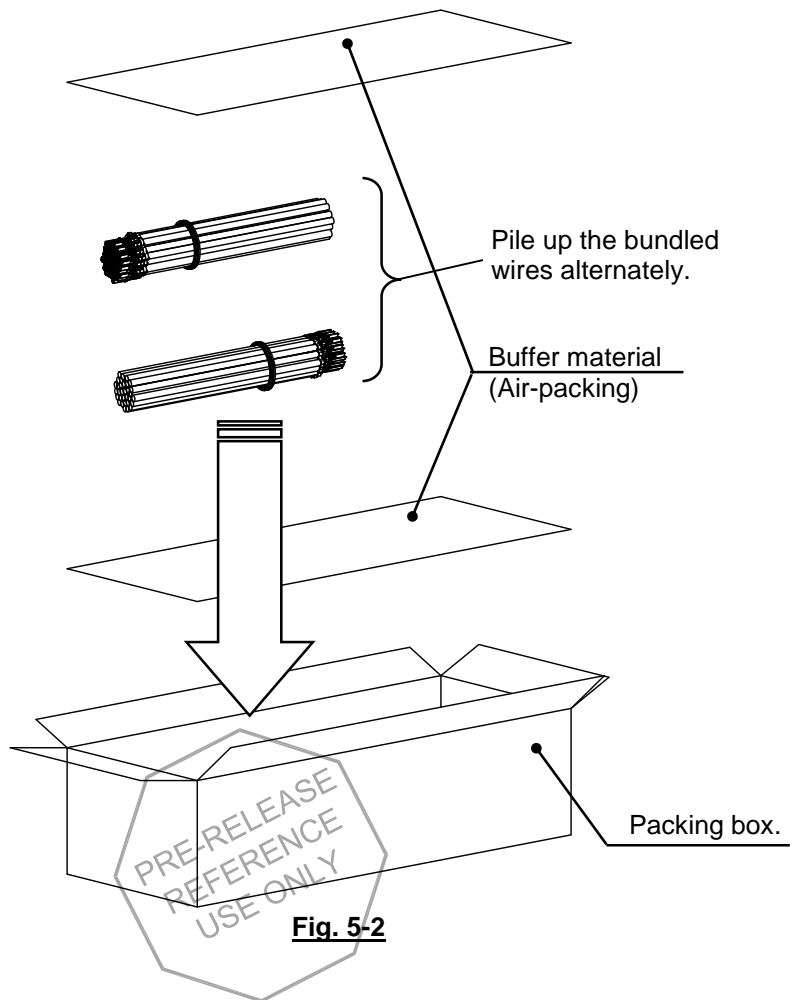

Fig. 5-2
- ※When packing bundled harnesses in package box, please stack product alternately so that no load is applied to connector for a long time. **(Fig.5-2)**
- ※Please lay buffer material on the bottom and top of the package box. **(Fig.5-2)**